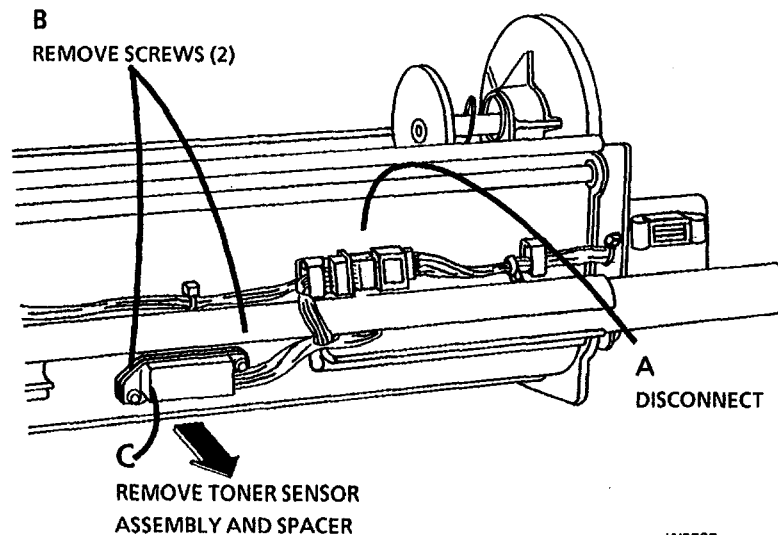

Figure 1. Remove the Toner Sensor
3. (Figure 1): Remove the Toner Sensor.